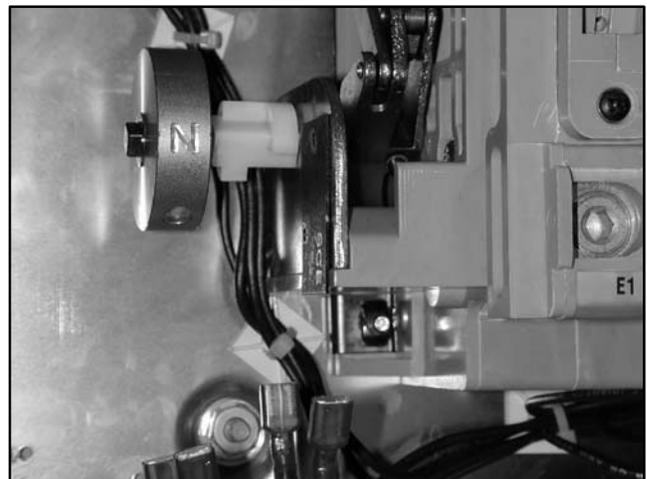

Figure 5-10 Microswitch Fast-On Connectors
6. Disconnect the fast-on connectors. See Figure 5-10.